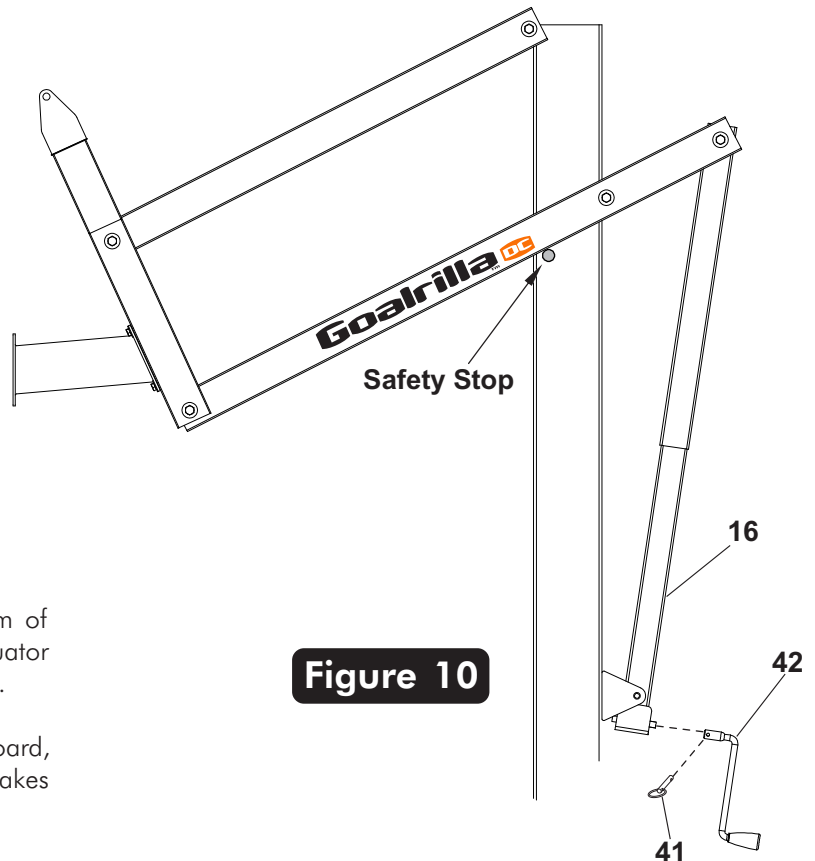

Figure 10
15. Slide Actuator Crank (#42) onto shaft on the bottom of Actuator (#16). Line up hole in shaft with hole in Actuator Crank and insert Pull Pin (#41) to secure. See Figure 10.